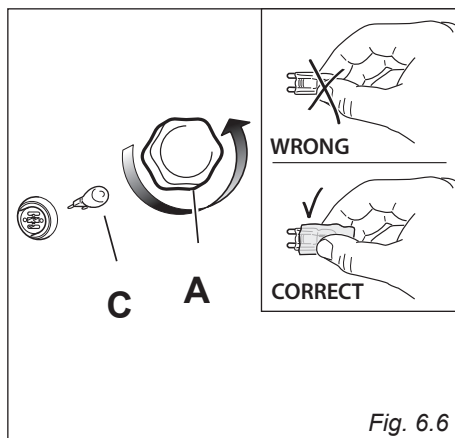

Fig. 6.6
- Remove the protective cover “A” (fig. 6.6).